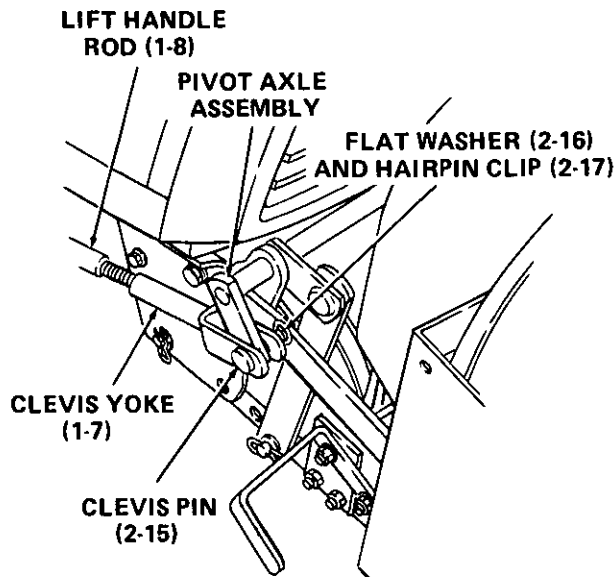

Figure 32
9. Attach clevis yoke (1-7) to threaded end of lift handle rod (1-8). Refer to Figure 32.
- a. Install clevis yoke end of lift handle rod to pivot axle assembly, and secure with clevis pin (2-15), flat washer (2-16) and hairpin clip (2-17). Refer to Figure 32.